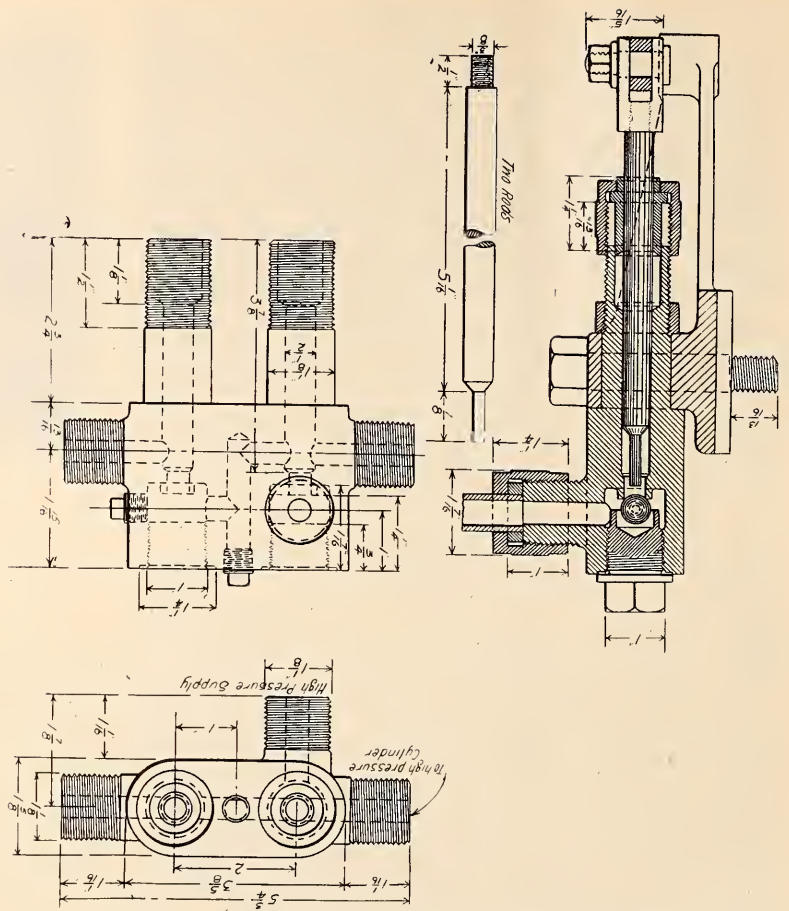
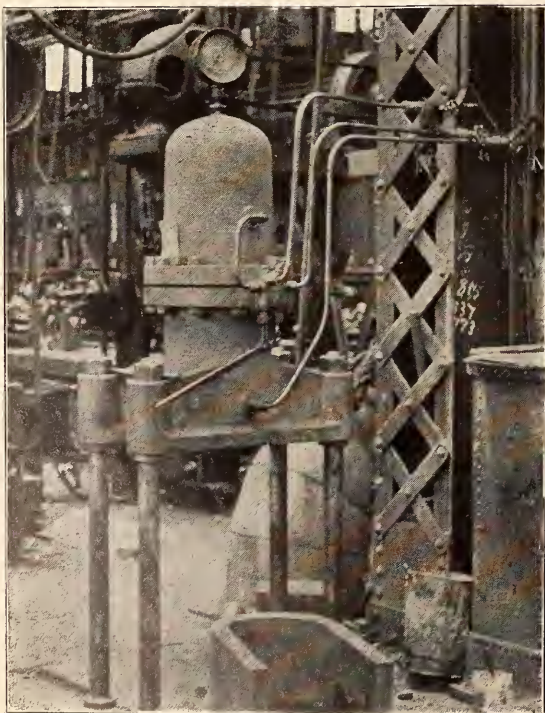

FIG. 3—DETAILS OF CONTROLLING VALVE, HYDRAULIC DRIVING BRASS PRESS—L. S. & M. S. RY.
FIG. 1—HYDRAULIC DRIVING BRASS PRESS—L. S. & M. S. RY.
**I**N the title of figure 3 appearing with the article on the electric wiring of machine tools, presented in our April issue, a typographical error occurred. The words "Four side timber dresser direct connected to 15 H. P. constant speed Crocker-Wheeler motor," should have read "50 H. P.," instead.
**A**MONG the many up-to-date machines and appliances in the new Collinwood shop of the Lake Shore & Michigan Southern Railway we note an interesting hydraulic press for forcing crown brasses in and out of position in driving boxes. Another machine of similar design is used for rod brasses. A general view of this device with its connections is presented by the half-tone engraving Fig. 1, an end elevation and a half section is shown by Fig. 2, and the details of the controlling valve are included in Fig. 3. The press consists practically of two vertical cylinders arranged in tandem. The upper cylinder is connected to the hydraulic pumping plant, which supplies the necessary pressure to force down the plunger and accomplish the desired work. The lower cylinder is connected to the city main, which provides sufficient pressure to again raise the plunger when pressure in the upper cylinder is released. It will be noticed that pressure of water in the lower cylinder acts against